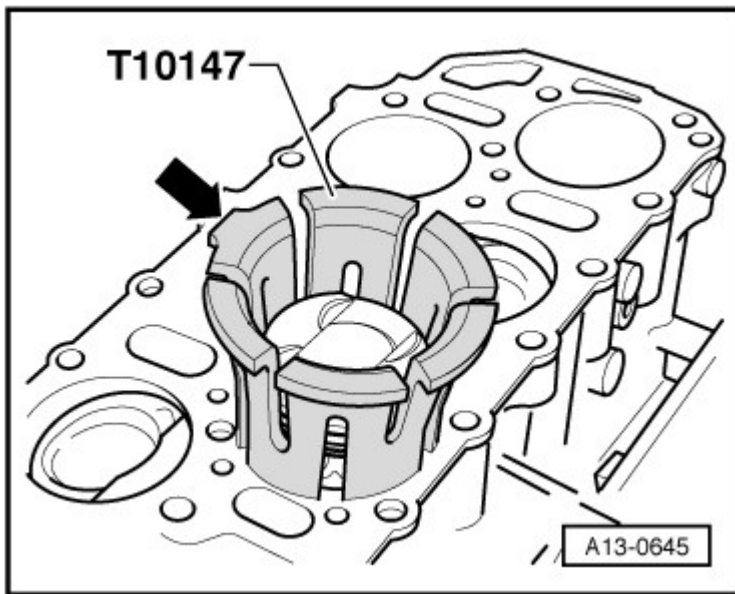

Fig. 12: Installing Piston With Funnel T10147
- Install using piston insertion funnel T10147, refer to **Fig. 12**